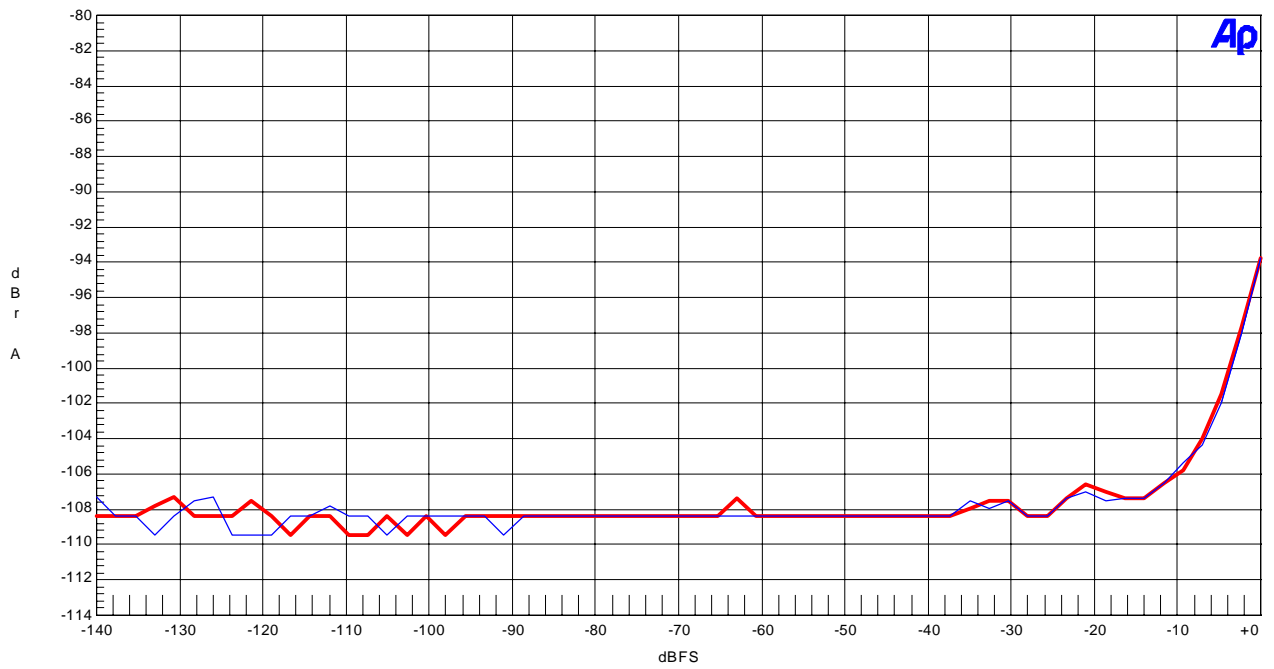

Figure 5. THD+N vs Input Level (fin=1kHz)
- Figure 5. THD+N vs Input Level (fin=1kHz)